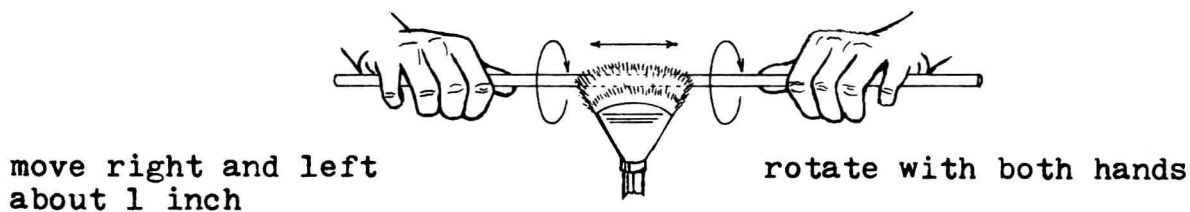

Figure 1-4
A. Attach a wing top to your burner. Be careful that the burner has had sufficient time to cool. Turn on the burner and rotate a 20 cm piece of tubing, from Part 2 above, in the flame as shown in Figure 1-4. Continue to rotate the tubing until the glass becomes soft and begins to sag.